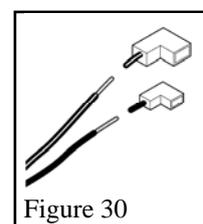

Figure 30
- Cut off the “L” terminals from the switch wires **on the remote control receiver** and remove insulation from approximately ¼” at ends of wires. See figure 30.